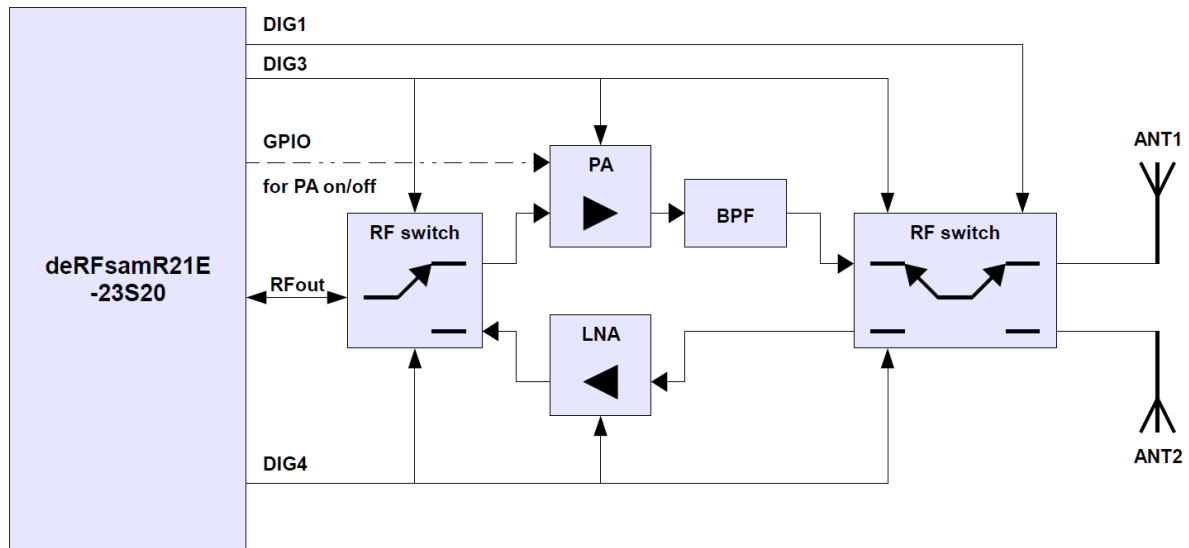

Figure 9-8: block diagram for external PA/LNA and antenna diversity control
The radio module deRFsamR21E-23S20 can be used with an external front end, including power amplifier (PA) for transmission and low noise amplifier (LNA) for receiving, and antenna diversity. **Figure 9-8** shows a possible design as block diagram. A custom design can contain a single PA or single LNA or a complete integrated front-end chip. It depends mainly on the application. Furthermore, it is possible to include a RF switch for driving the antenna diversity feature. An example block diagram is shown in **Figure 9-8**.